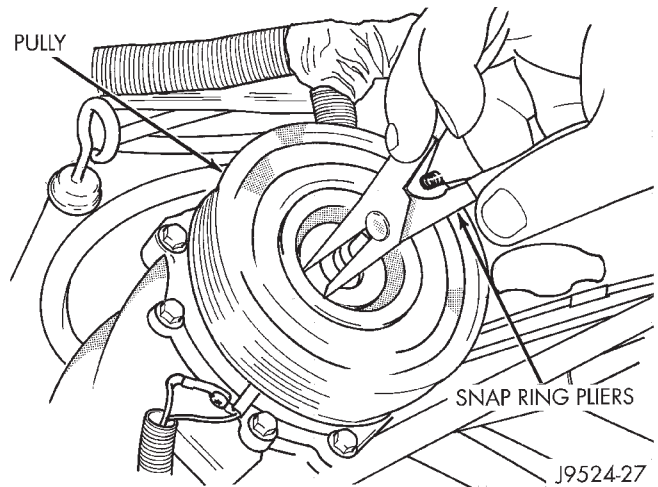

Fig. 21 External Snap Ring Remove
- (8) Remove the compressor shaft key and the clutch shims.
- (9) Remove the external front housing snap ring with snap ring pliers (Fig. 21).